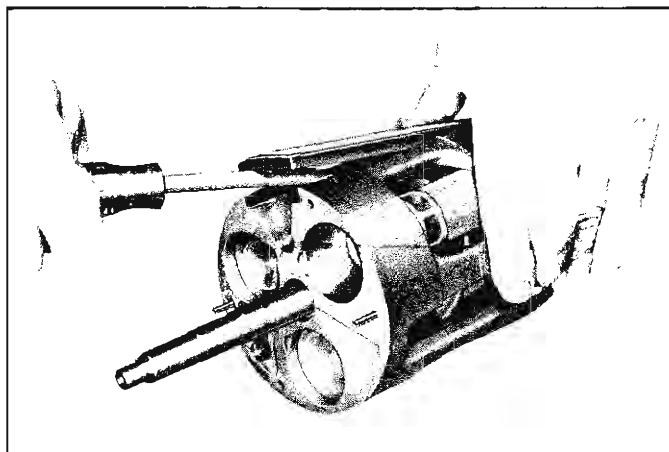

Fig. 28—Removing Suction Crossover Cover
6. Remove the suction crossover cover (fig. 28) and discard the old gasket.